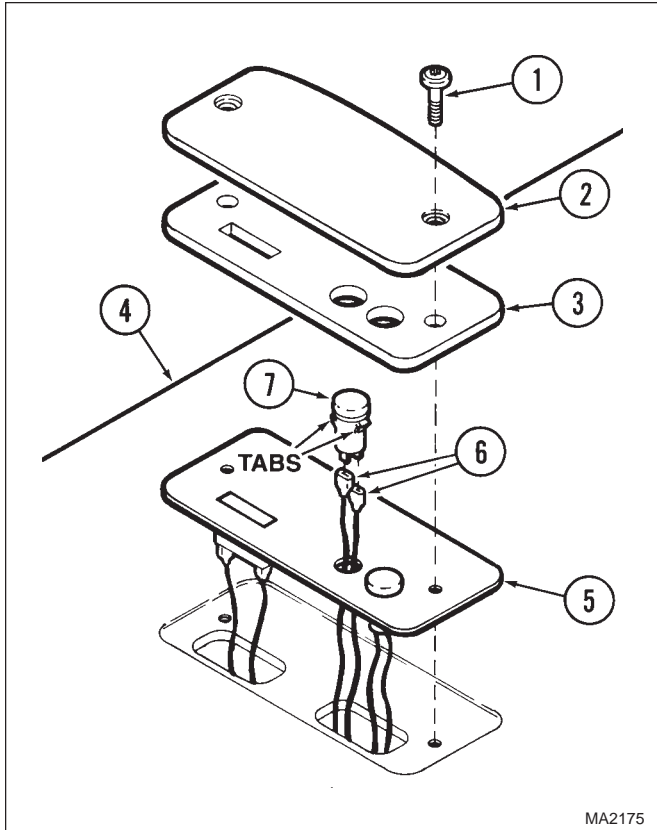

Figure 4-52. POWER STANDBY Lamp Removal / Installation
- (1) Disconnect all electrical power from surgery table.
- (2) Remove two bolts (1, Figure 4-52), name plate (2), and light gasket (3) from base casting (4).